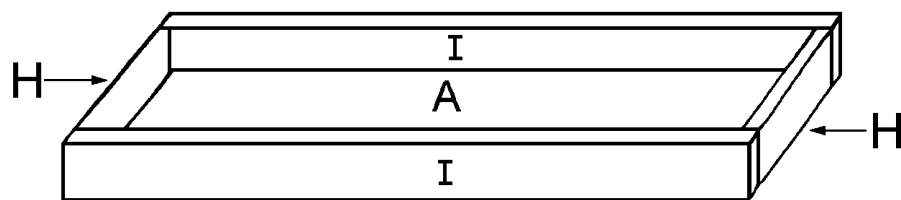

Figure 5
1. First cut two short table trim pieces (H) from 1 x 4 pine, each 9" long. Then cut two long table trim pieces (I) for 1 x 4 pine, each 49" long.
- Carefully set the laminated table top (A) upside down on a level surface. Now place one short table trim piece (H) on edge at each end of the table top (A), as shown in *Figure 5*. Use glue and three 1-1/4"-long screws to attach each short table trim piece (H) to the table top (A).
- The long trim pieces (I) extend over the ends of the short trim pieces (H). (See *Figure 5*.) Attach the long trim (I) to the table top (A) with glue and screws. Use 1-1/4"-long screws spaced about 6" apart.
- Set the completed table top onto the leg and shelf assembly. Make sure that the table trim pieces (H and I) rest on the legs (C) and that the table top (A) is supported by the long leg reinforcements (E).
- Glue and screw through the long leg reinforcements (E) into both the long and short trim pieces (H and I) to secure the table top. Place two 2"-long screws in each of the corners.